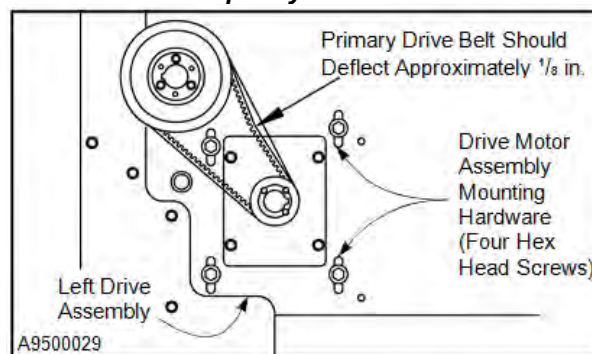

Figure 29
2. Check the tension setting of the primary drive belt by placing moderate pressure against the mid-point of the belt. A properly tensioned belt should deflect approximately $\frac{1}{8}$ in. (See Figure 29.)
3. Inspect the hardware securing the drive motor assembly to the left drive assembly. Tighten any loose hardware. Replace any missing or damaged hardware as required. (See Figure 29.)